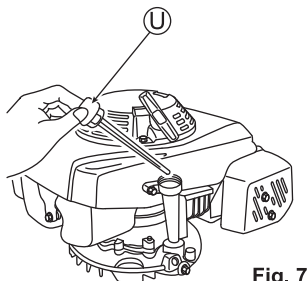

Fig. 7
1. Remove the oil tank cap (U), pull out the oil gauge, and then insert it not screwing it. (See Fig. 7)
2. Remove the oil tank cap (U), and confirm that the oil level is between the upper and lower limits of the oil gauge.
4. Firmly close the oil tank cap (U) after confirmation.